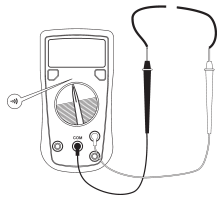

figure 6
F. Continuity Measurement (see figure 6)